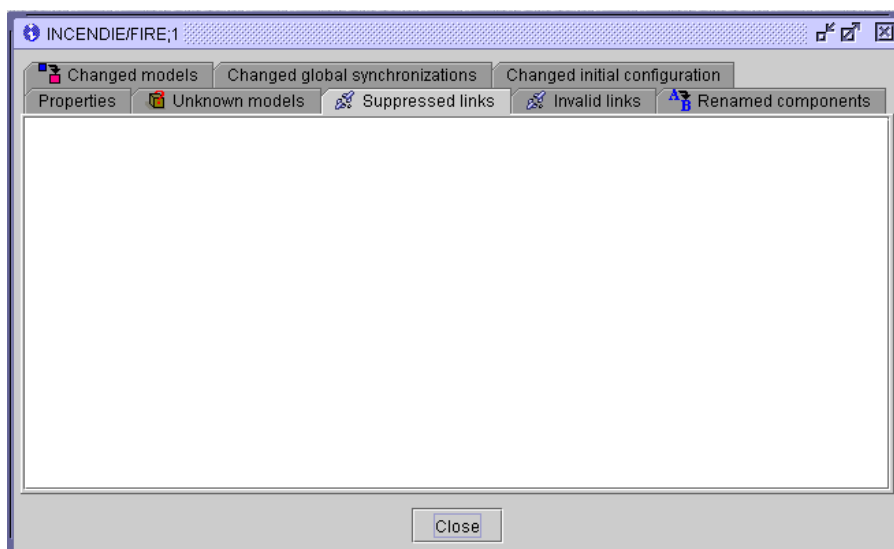

Figure 149 : Information – Suppressed links tab
- Click on the Suppressed links tab (Figure 149); it indicates the From – To information for each of the following elements: component, component model, port, port type and field of type.
- Click on the Invalid links tab (Figure 149); it indicates the From – To information for each of the following elements: component, component model, port, port type and field of type.